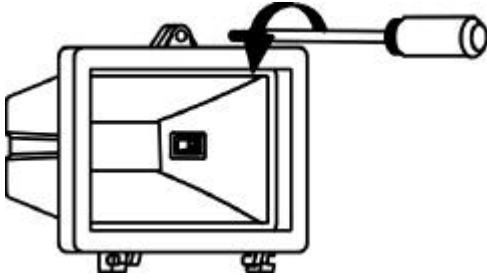

FIGURE 3
- (1) Do not touch the floodlight while it is in use or still hot. Allow it to cool (about 5 minutes) before touching it.
- (2) Do not use halogen bulb rated higher than 500 watts.
- (3) Disconnect the power cord or wall switch. Unscrew retaining screw on the front of the floodlight. This will release front surround (FIGURE 3).